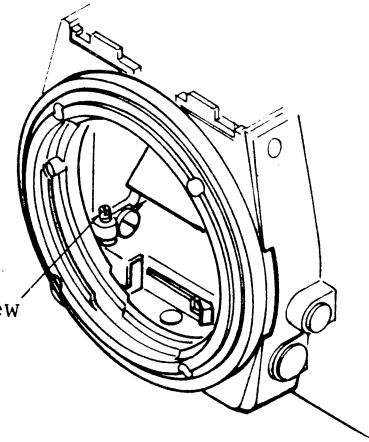

Fig.41
1. Adjustment is made by only turning the adjusting screw A with NO.2 minus screw driver. (Fig. 41)